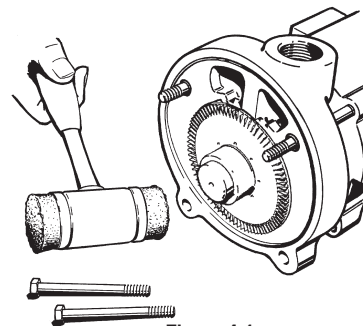

Figure 4-1
4. Remove the Impeller (#11). Refer to Figure 4-1. The impeller is a slip fit and, under normal conditions, can be removed by gently tapping on the end of the shaft sleeve with a mallet. Leave the Impeller Key (#23) in place. Striking the sleeve too hard could damage the seat or rotating element.